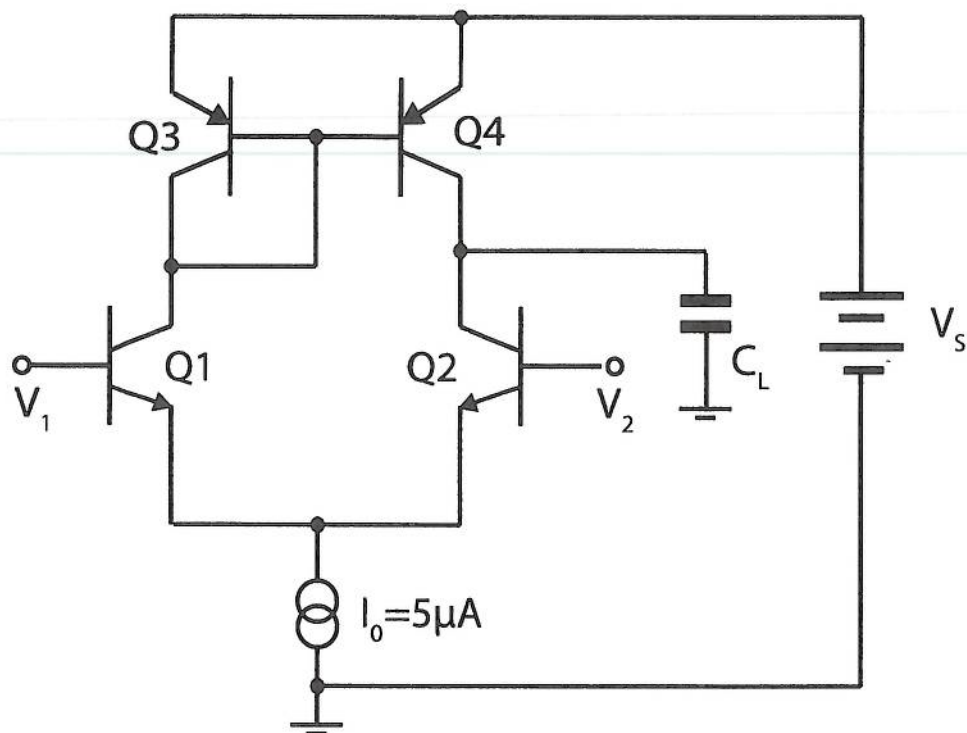

Figure 1.
1. Figure 1 below shows a single stage of a differential amplifier.